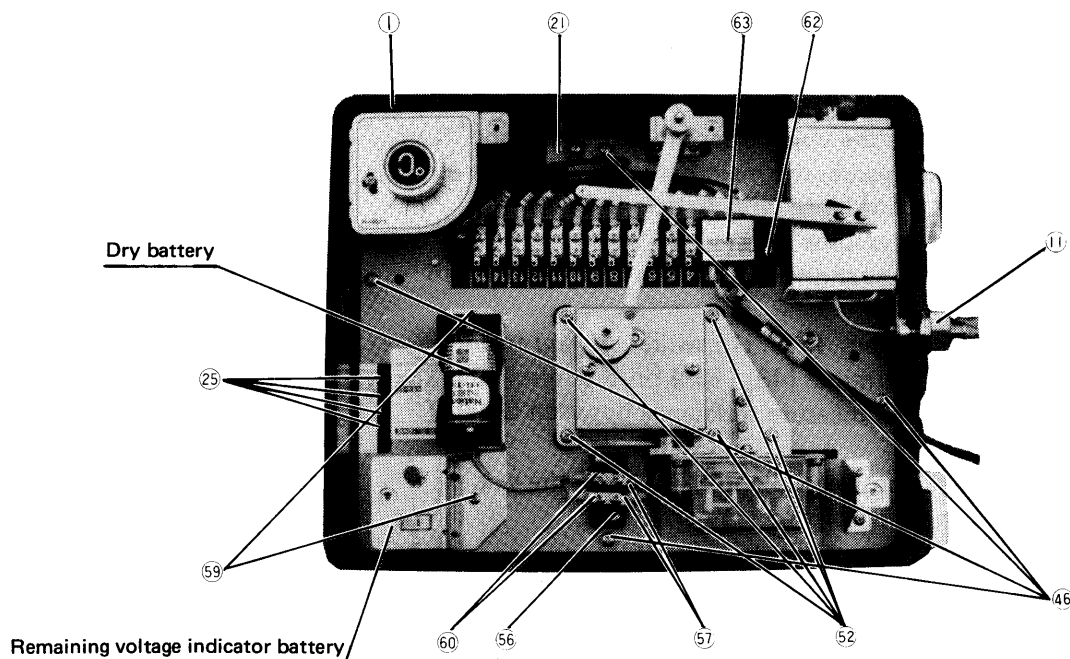

Fig. 3 Internal structure
- (1) Remove the recording plate from the body (1) (See Article b. (2)●) When it is removed, it looks as shown in Fig. 3. In this state, sensor, timer, remaining voltage indicator and battery and dry battery are replaced.
- In case the pilot lamps for functioning temperature (25) remain unlit although the power source is turned on.
- Remove the recording board, (state shown in Fig. 3). Loosen the screws (62) to remove protection board for impressed voltage (63) loosen terminal screws (Nos. 1 to 3) on the terminal strip (21) and remove the wiring. Then, measure temperature of the feeler part and resistance of the sensor and compare them with the characteristics of temperature resistance shown in Fig. 10, and if they do not accord with them, replace the sensor. If they accord, the main base plate or the volume setter is out of order. So replace it in accordance with Articles D,(2).① and D,(2).②
- Replace the recording board, and insert a battery so as not make a mistake in polarity as in the state of Fig. 3 (Fig. 3 shows polarity of a battery). It is advisable to use a battery similar to SUM-2 of JIS C8501 and R14 of IEC. (Dry battery DC1.5V)
- Remove the recording board (state shown in Fig. 3). Loosen two screw bolts (59) and two screw bolts (60), and the remaining voltage indicator battery can be removed from the indicator body. So replace it with a new battery.
- When replacing, connect the wires to the terminal strip (56) in a way red wire to red and black wire to black.
- Remove the recording board (state shown in Fig. 3). Loosen two screw bolts (57) from the terminal strip (56) to remove the wires. Then remove five screw bolts (58) to replace the timer with a new one.
- When replacing the timer, replace the attached vibration isolators (5 pcs) at the same time. The red wires are for + current and the black wires – current. Connect the wires to the terminal strip (56) in a way that red wires are connected to red and the black wires to black. Tightening torque for vibration rubber is 4 ~ 5 kg-cm.